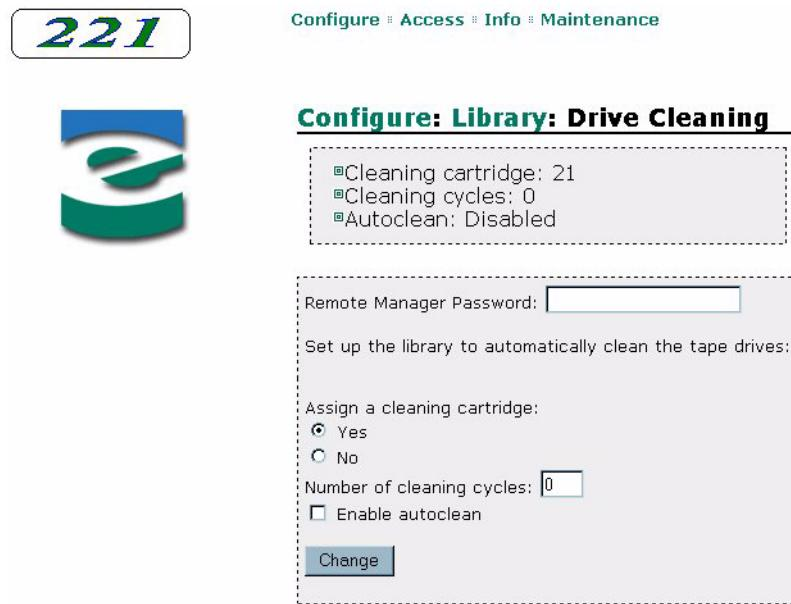

Figure 6-20 Remote management utility – Drive Cleaning Configuration page
3. Click on Configure drive cleaning settings. A page similar to Figure 6-20 appears. This page indicates the current slot designated for a cleaning cartridge, the number of cleaning cycles remaining for the cleaning cartridge (if present), and whether the Autoclean option is enabled or disabled.